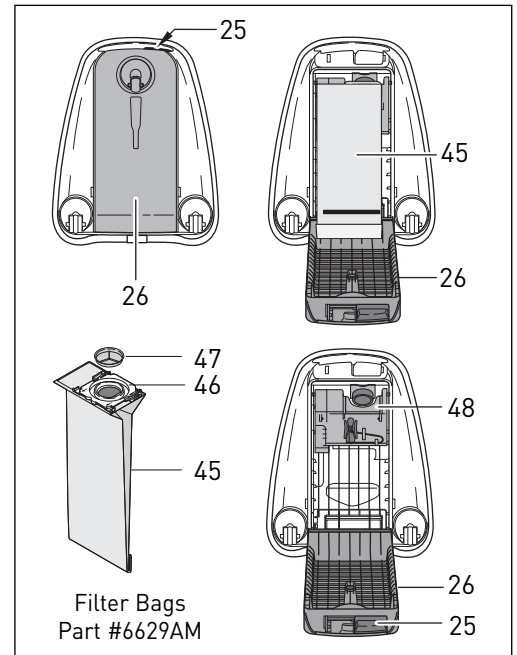

Figure 16
## Changing the Filter Bag - Figure 16
## Changing the Micro-Hygiene Filter - Figures 16 & 18
After 10 to 20 bags have been used, change the micro-hygiene filter (52). To remove the micro-hygiene filter, set the canister upright (as shown in figure 16). Press the cover release catch (25) and lower the filter bag cover (26). Remove the filter bag, then remove the cover by sliding it up and out of the grooves (53). Pull the old filter out (52) and slide the new filter into the same position. Replace the filter bag, then re-insert the cover by fitting the tabs into the grooves (53) on both sides and sliding it in and down. Push the cover closed, making sure it snaps shut completely.
Remove hose (10) from vacuum cleaner (see figure 21), open the filter bag cover and remove the filter bag. (figure 16, page 9). Clean out entrance to bag (58).